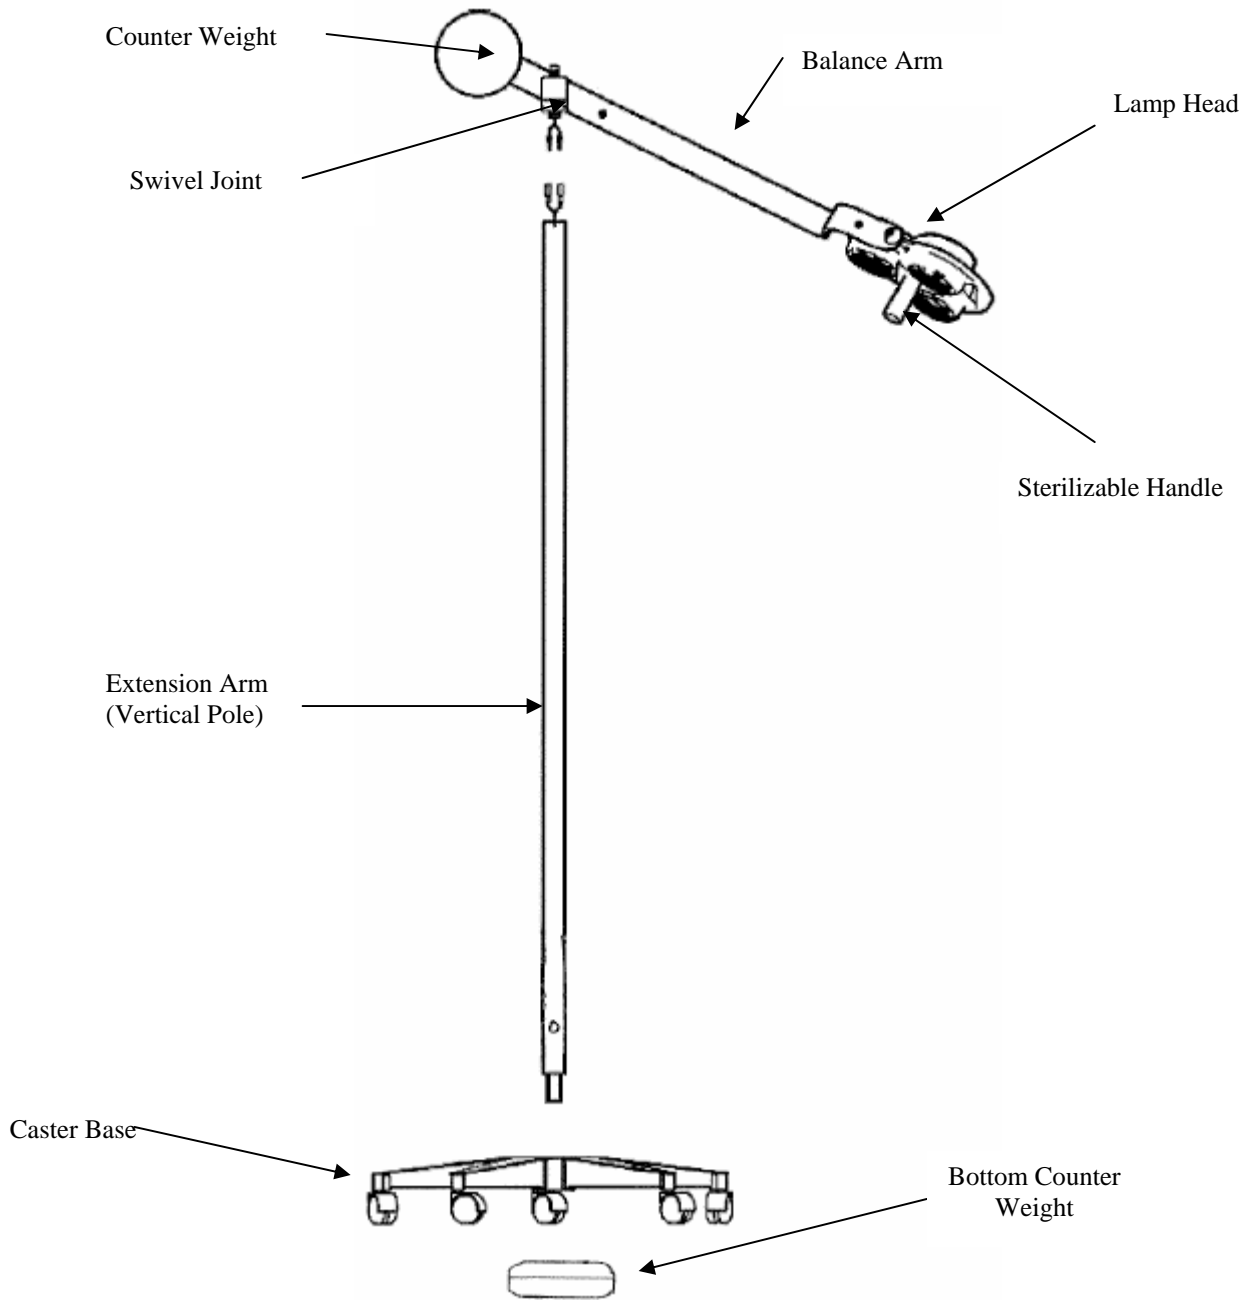

Figure 1: Celestial Star Mobile MRI
1. Insert the bottom of the vertical pole into the center housing of the caster base. Refer to Figure 1.
3. Attach the base counter weight to bottom of vertical pole using the 5/16-18 socket head cap screw with Allen key (1/4).
3. Attach the balance arm to the vertical pole. Connect the male Molex connector with the female Molex connector and ensure that the positive latch on the connectors is achieved. Refer to Figure 1. Position the connection in such a way that the wires will not be compromised by securing the extension arm to the balance arm.